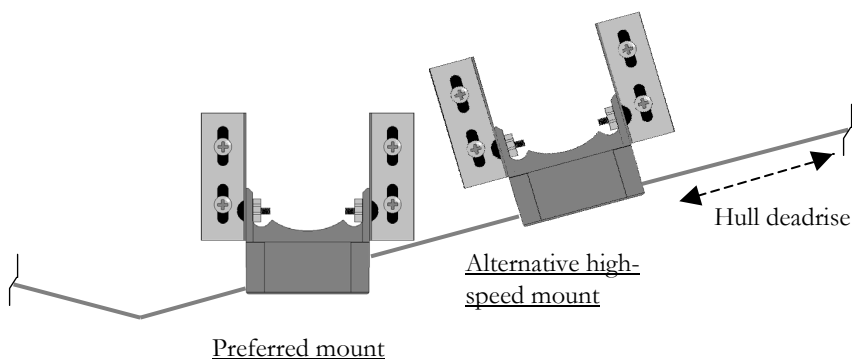

Figure 1. *Transducer mounting options on V-hull transom*
- Sometimes during high-speed operation a transducer hanging too far below the bottom edge of the transom can cause drag and *rooster tails*. If you typically operate your boat at high speeds, you may want to mount the transducer so the face is parallel with the *deadrise* of the boat (see Figure 1). If after following the above instructions, you still have performance problems at high speeds, further suggestions can be found on page 6.